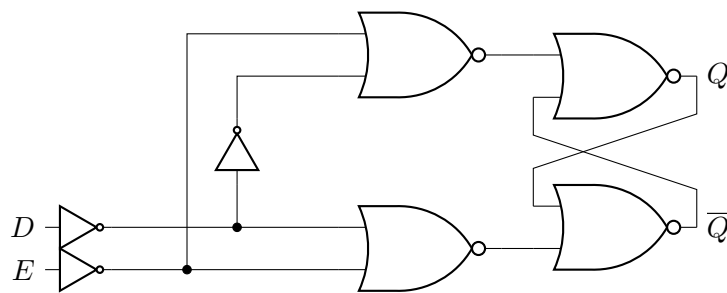

Figure 7: Alternative equivalent logic circuit for a D latch
- 5.1** Using your CMOS Inverter from Section 2 and your SR Latch from the previous section, construct a D latch based on the logic circuit in Figure 7, using active low buttons as a transistor-free way to emulate the behavior of the NOT gates on the D and E inputs.